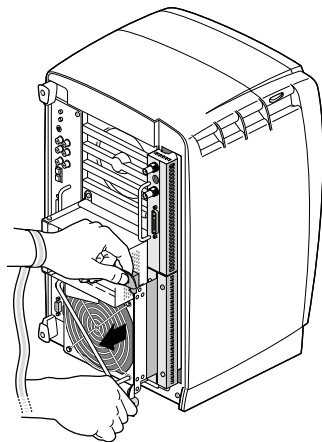

Figure 11 Releasing the XIO Tri-Module
2. Grasp the sliding handles and pull them until the sliding portion of the XIO Tri-Module protrudes about an inch from the chassis, as shown in Figure 11.